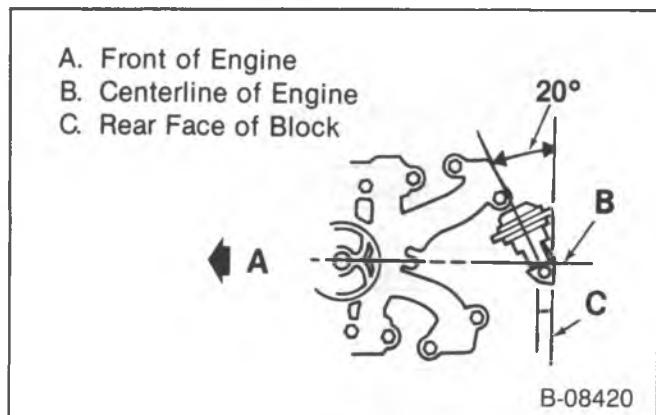

Figure 58—Vacuum Pump Installed
- Rotate the vacuum pump (if used) to its correct position (figure 58).